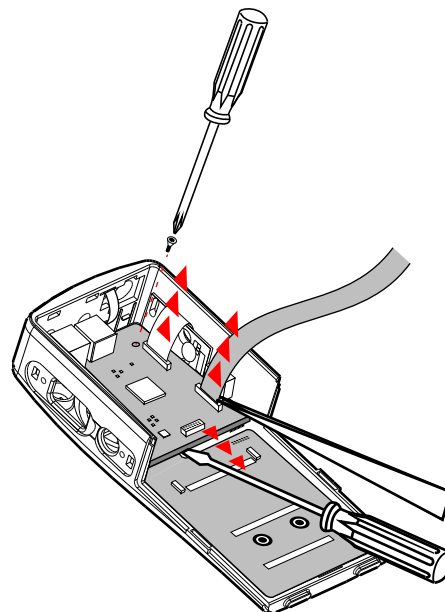

Figure 1-6 Remove Controller Board
3. Unlatch the latch levers on the controller board, and remove the ribbon cable as well as the flex tail from the connectors (Figure 1-6).
4. Use a TORX® head screwdriver to remove the screw (Figure 1-6).
5. Gently lift the bottom of the controller board to disconnect it from the display board (Figure 1-6).